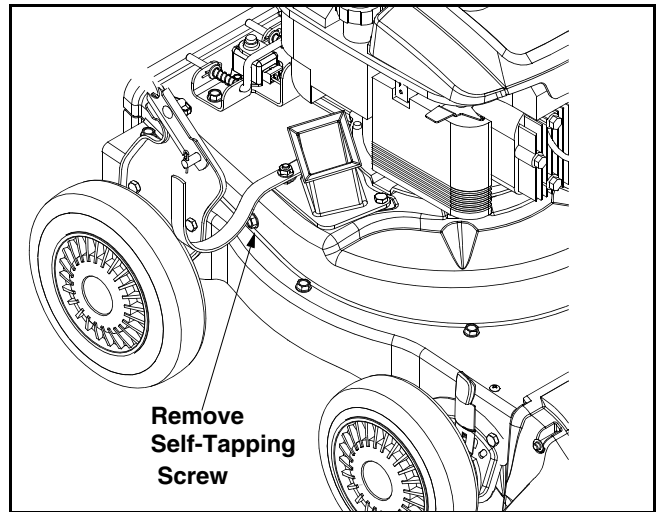

Figure 12
- Remove self-tapping screw on right side of unit that attaches to the flail screen. It may be necessary to remove the hose bracket hanger to get access to the hex screw. See Figure 12.